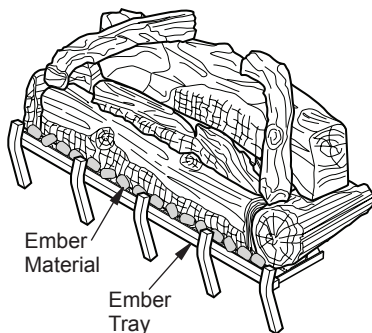

Figure 60 - Applying Ember Material
5. Break apart about quarter sized pieces and place a single layer along full length of ember tray to hide bottom edge of base log (see Figure 60).